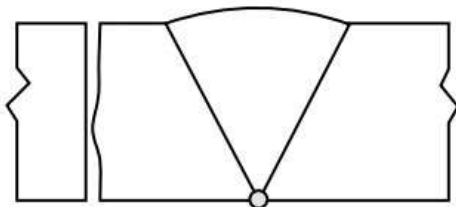

Fig. Q.27.1 Failure of reinforced butt weld
- In situation where butt weld is reinforced on both the sides of the plate the failure occurs at some distance away from the weld section as shown in Fig. Q.27.1 below.